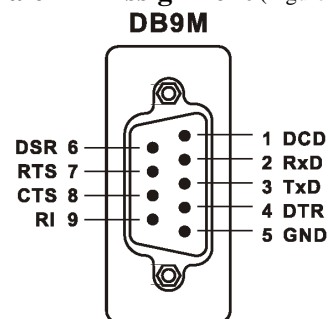

Figure 1
3.0 DB9 Male Pin Assignment (Figure 1)